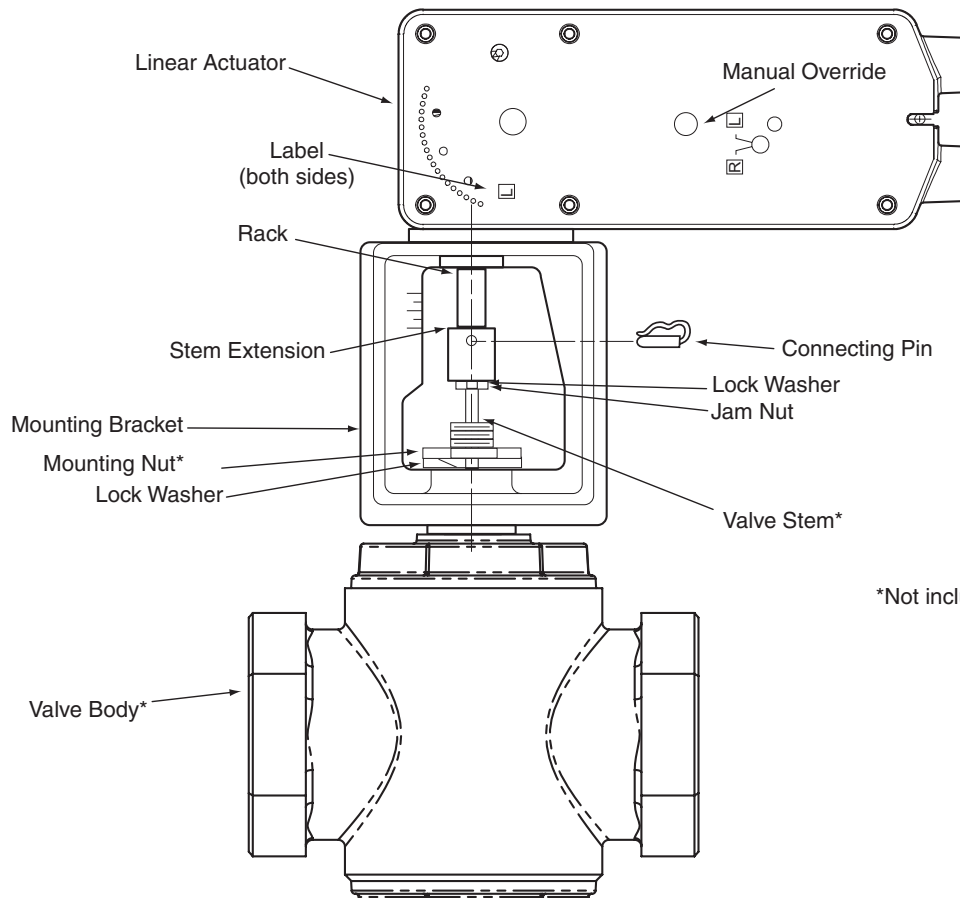

Figure 14 Typical Assembly and Installation.
1. Install the actuator onto the valve. Set up the assembly according to the numbered steps in Figure 14.